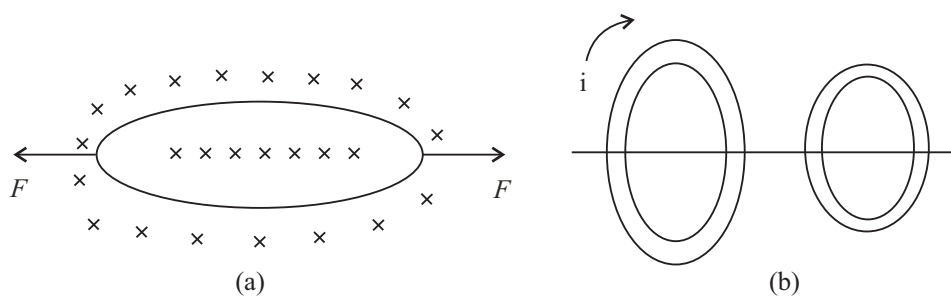

Fig. 19.32
2. (a) In Fig.19.32 what is the direction of the induced current in the loop when the area of the loop is decreased by pulling on it with the forces labelled F? B is directed into the page and perpendicular to it.